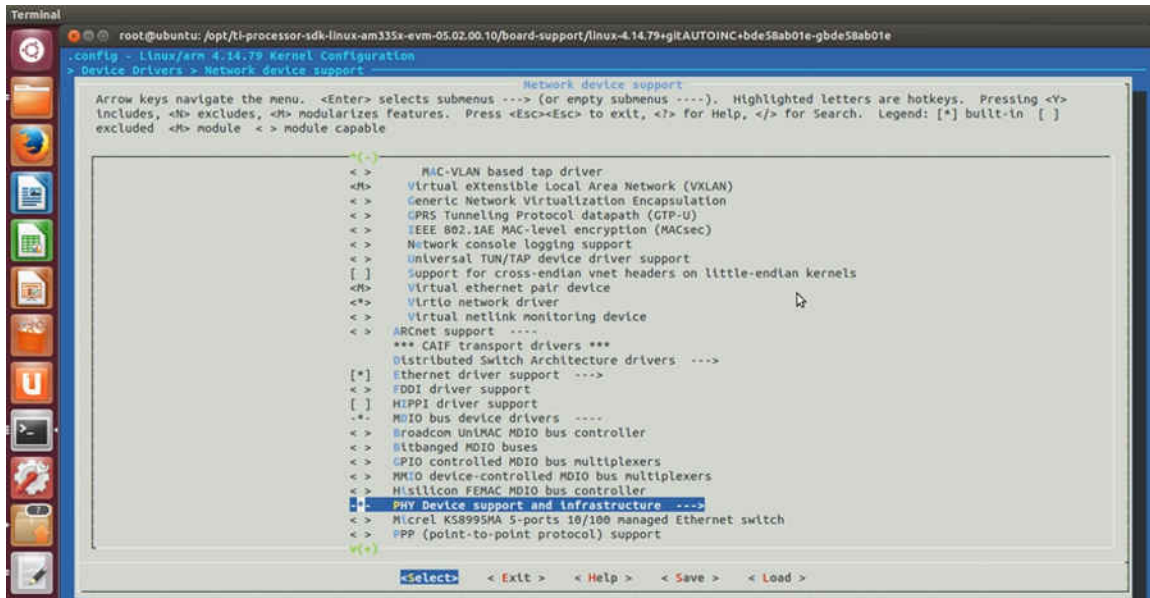

Figure 3-12. Menu Configuration Step A
1. Figure 3-12 is used to set the Phy Interface.